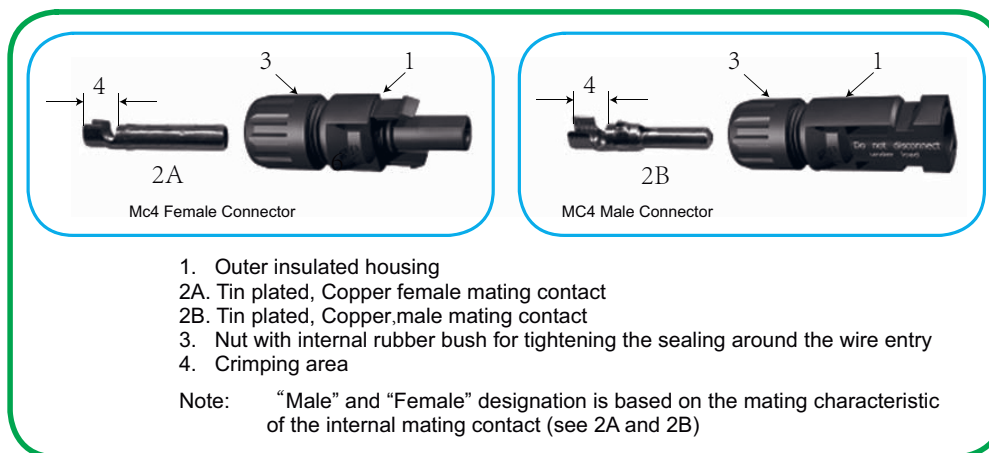
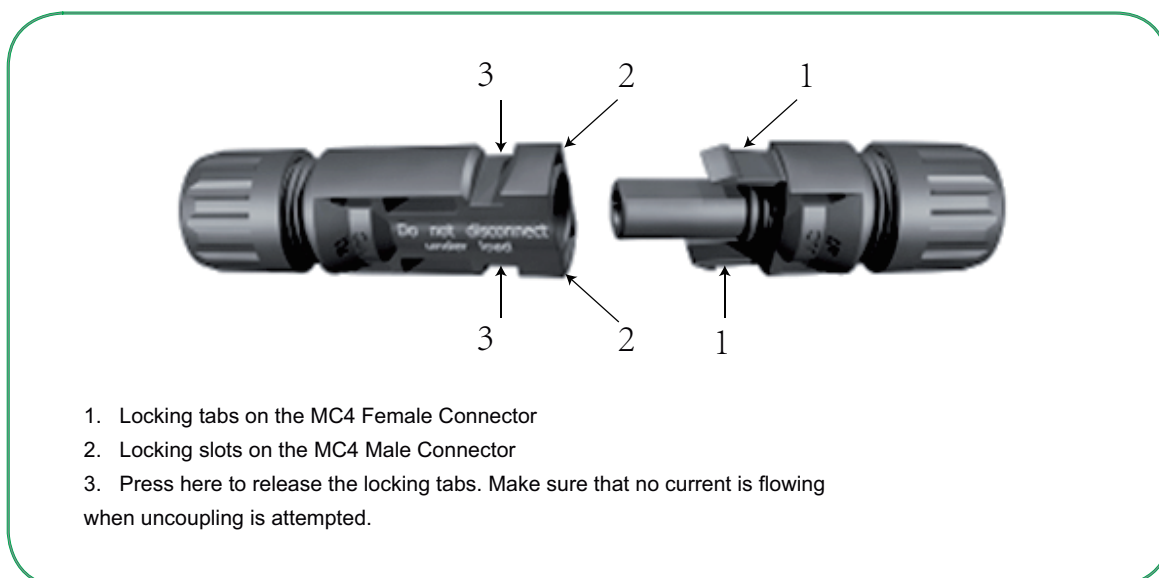

Fig. 1. MC4 Male and Female Connectors
Fig. 2. Snap-in Locking System
### MC4 Multi-Contact Connectors (Fig. 1)
Construction of MC4 Connectors (See Fig. 1)
The Male and Female MC4 Connectors consist of the following components (See Fig. 1).
- Outer insulated housing with locking arrangement (1 of Fig. 1)
- Tin-plated Copper metallic male & female mating contacts (2A and 2B of Fig. 1). The wire is placed in the crimping area (4 of Fig. 1) and crimped with a special crimping tool
- Nut & internal rubber bush (3 of Fig. 1). When the nut is tightened, the internal rubber bush is compressed around the outer jacket of the cable and thus, provides water-tight sealing.
### MC4 Connector ?Locking Arrangement (Fig. 2)
Two locking tabs (1 of Fig. 2) are provided on the MC4 Female Connector. Two corresponding locking slots (2 of Fig. 2) are provided on the MC4 Male Connector. When the two connectors are coupled, the locking tabs slide into the locking slots and secure.
Installation procedure (See Fig. 1 and Fig. 2)
2. Insert the bare conductor into the crimping area (4 of Fig. 1) of the metallic mating contact and crimp using a special purpose crimping tool. The end may be soldered if the crimping tool is not available. Take care that the solder does not flow beyond the crimp area.
4. Tighten nut (3 of Fig.1) so that the rubber bush is compressed around the wire entry to ensure proper sealing.